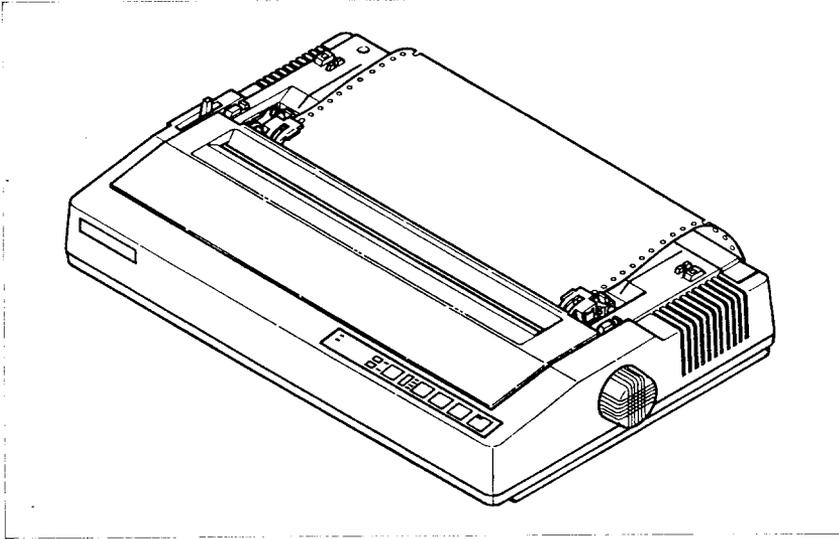

Figure 2-8. Close the sprocket covers when the paper is positioned correctly.
8. Check that the paper is still positioned correctly, and close the sprocket covers (Figure 2-8).